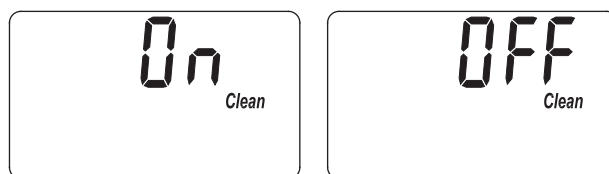

FIG. 27
1. Press and hold the PROGRAM button until the screen in Figure 24 is displayed. Once in this display, press the PROGRAM button twice and one of the two displays in Figure 27 is shown.